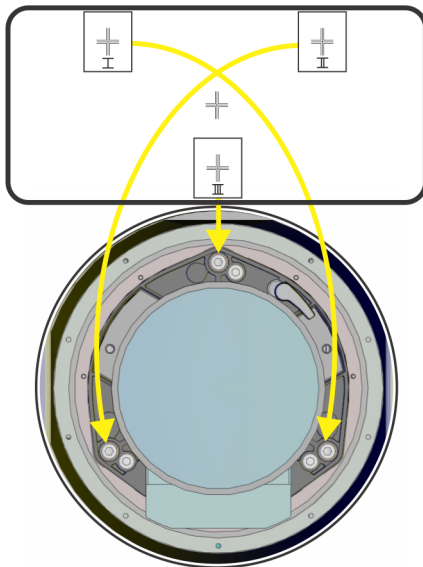

FIGURE 2-1 CROSS-HAIR PATTERN
3. If boresight is required, refer to *Figure 2-1 Cross-Hair Pattern* to understand how the adjustment screws on the lens mount affect the corresponding cross-hairs on the test pattern.